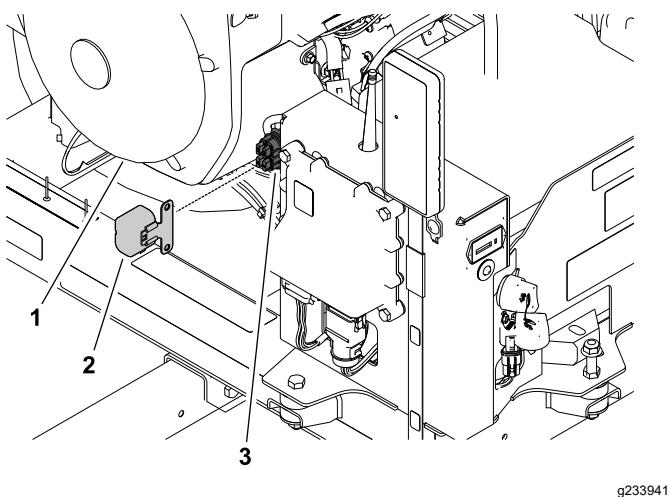

Figure 42
1. At the front, inboard side of the control tower, remove the fuse-block cover from the fuse block (Figure 42).
2. Remove the open fuse from the fuse block (Figure 42).
A fuse block is part into the machine wire harness. It is located behind the receiver on the right side of the control tower (Figure 42).